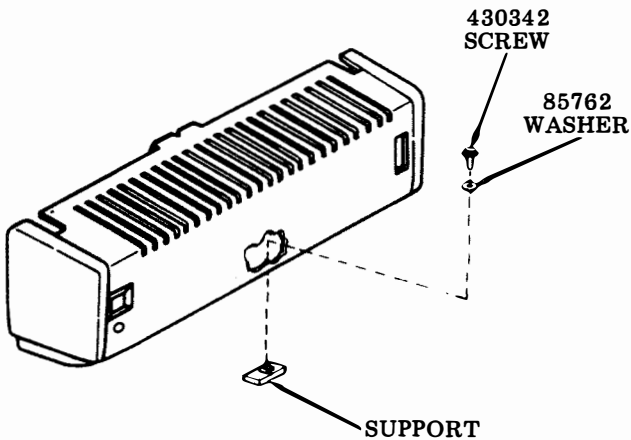

Fig. 7
4.10 Fasten the 430345 support to the bustle cover using a 430342 screw and a 85762 washer. See Fig. 7.